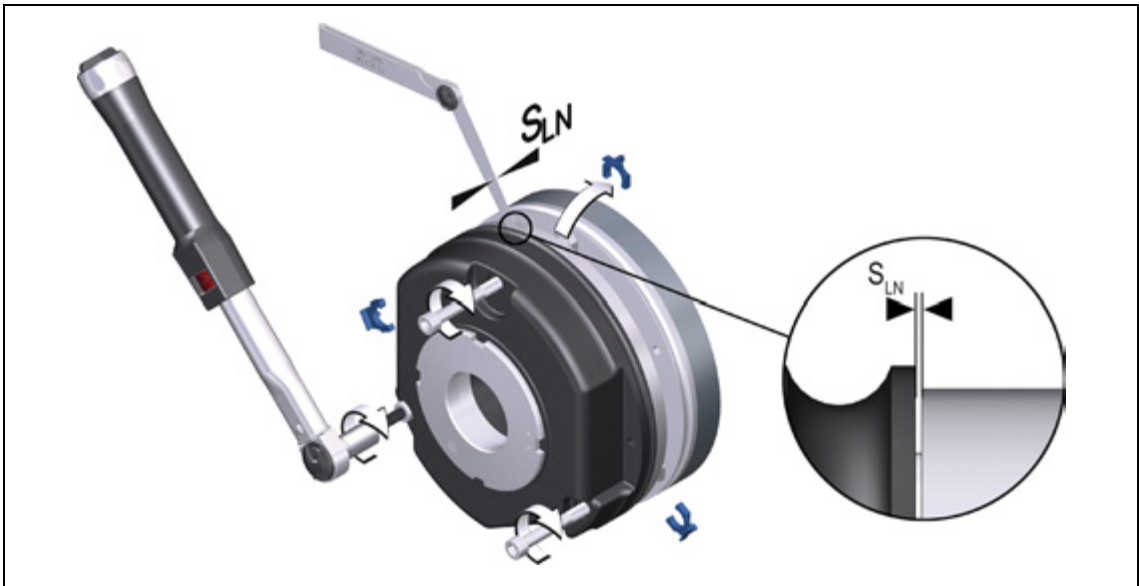

Fig. 11 Tightening the screws with a torque wrench
- Use a torque wrench to tighten the socket head cap screws (refer to Figure 11).